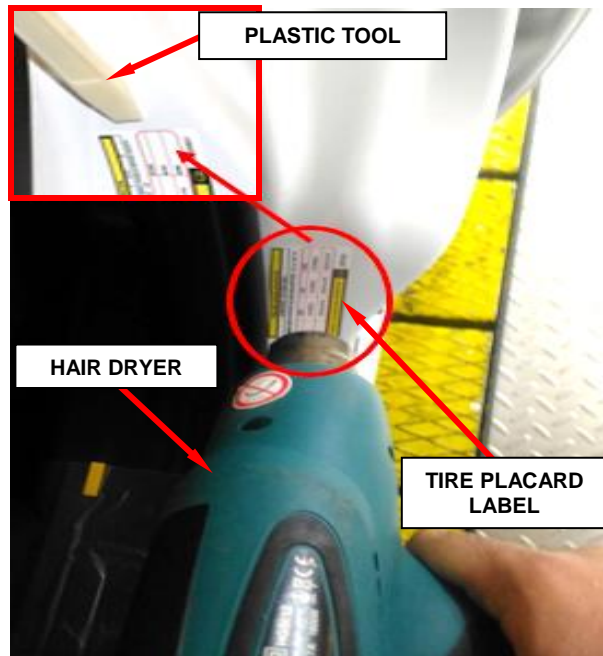

Figure 3 – Remove Tire Placard Label
- Use a hair dryer to heat and soften the original tire placard label adhesive (Figure 3).
- Use a thin plastic or rubber type tool to begin lifting a corner of the tire placard label (Figure 3).